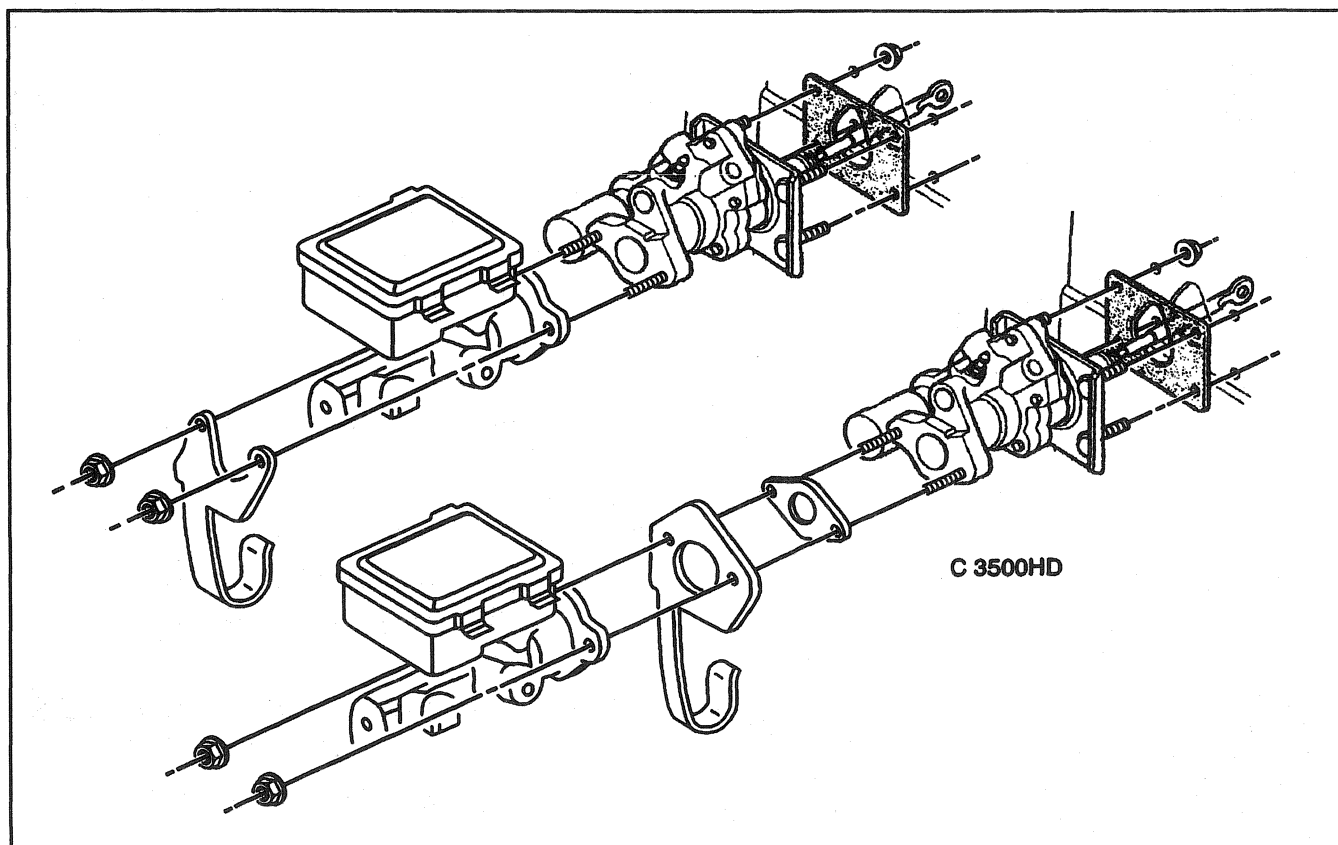

Figure 3—Booster Replacement
Remove or Disconnect (Figures 3, 4, and 5)
5. Wiring harness bracket and master cylinder (Figure 3).
Install or Connect (Figures 3, 4, and 5)